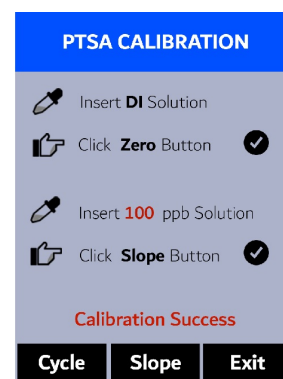

Figure 12.
11. If the calibration succeeds, a checkmark ( **✓** ), a “**Calibration Success**” message will appear (Figure 12). Otherwise, a warning message is displayed.